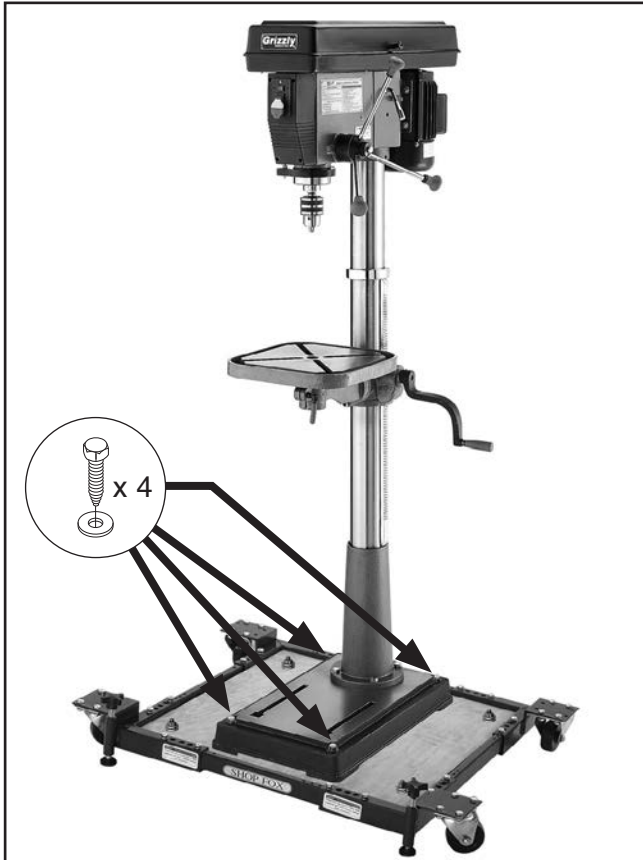

Figure 12. Drill press bolted to mobile base, using lag bolts and flat washers.
9. Mount drill press to base plate with lag bolts and flat washers, as shown in **Figure 12**, or with through bolts, flat washers, and hex nuts.